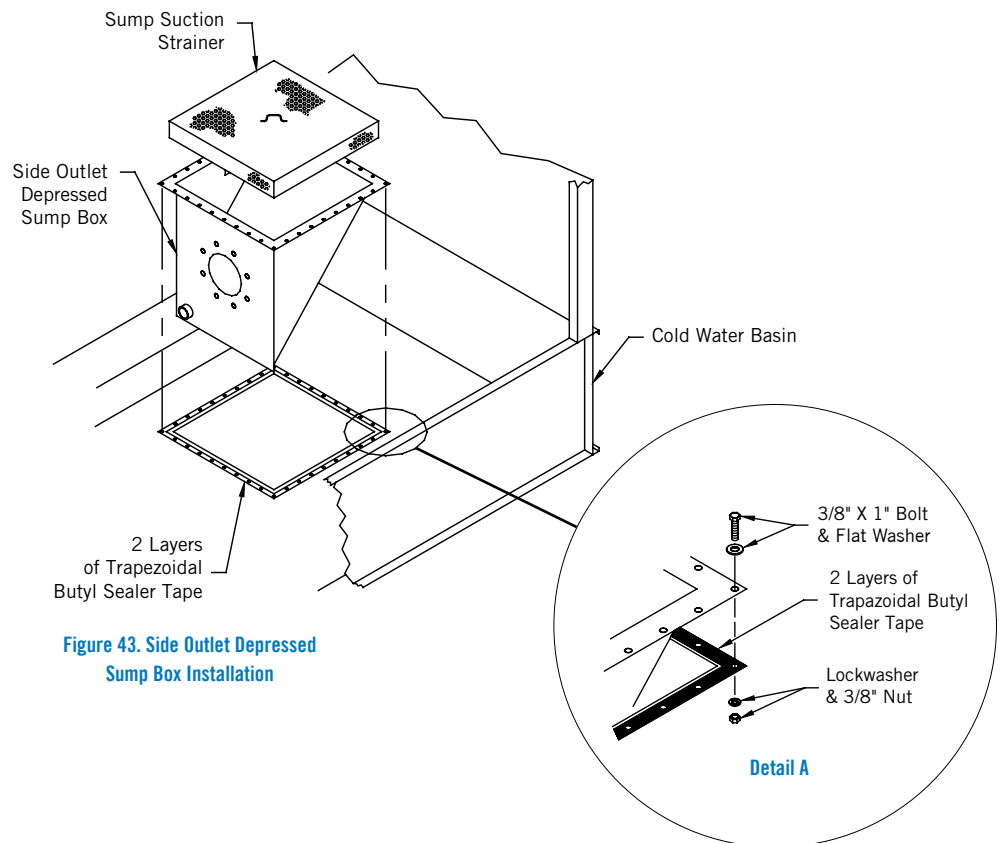

Figure 43. Side Outlet Depressed Sump Box Installation
2. Apply a layer of trapezoidal butyl sealer tape (BAC part #554009) around the opening in the basin over the centerline of the holes. Do not stretch the sealer tape too thinly or overlap at the corners. When it is necessary to splice the sealer tape, be sure to press the two ends together to form a smooth continuous strip. Apply a second layer of trapezoidal butyl sealer tape (BAC part #554009) over the first layer following the same procedure. Refer to **Figure 43**. The sealer tape needs to be positioned between the sump box and the inside basin bottom centered over the bolt holes.
3. Insert the sump box assembly into the opening in the cold water basin and attach it to the basin with 3/8" x 1" bolts, flat washers, lock washers, and nuts as shown in **Figure 43, Detail A**.